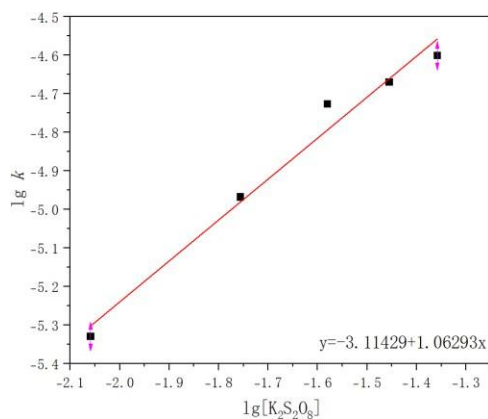

Fig.1
1. Effect of concentration of $K_2S_2O_8$: do $\lg k - \lg[K_2S_2O_8]$ graph **Fig.1** We can get its equation: $y = -3.11429 + 1.06293x$. The slope is 1.06293. Therefore, the reaction order of $K_2S_2O_8$ is approximately $m=1$.